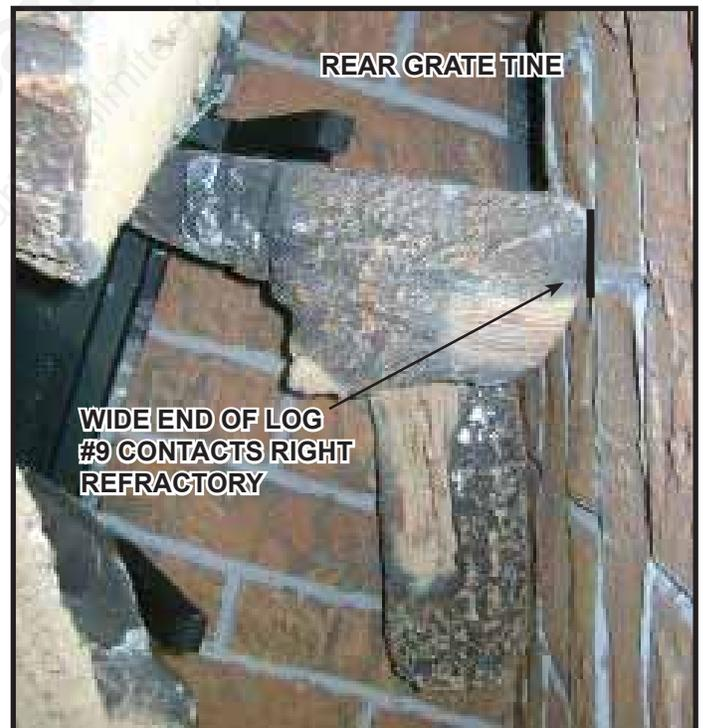

Figure 13.
**Log #9 (2170-725):** Place Log #9 into appliance as shown in Figure 13. Place log so that the wide end rests on Log #7 and contacts the refractory on the right side of the firebox just in front of the air intake port. The narrow end of Log #9 should contact the rear of Log #1 and the middle of Log #9 should contact the rear-right vertical grate tine.